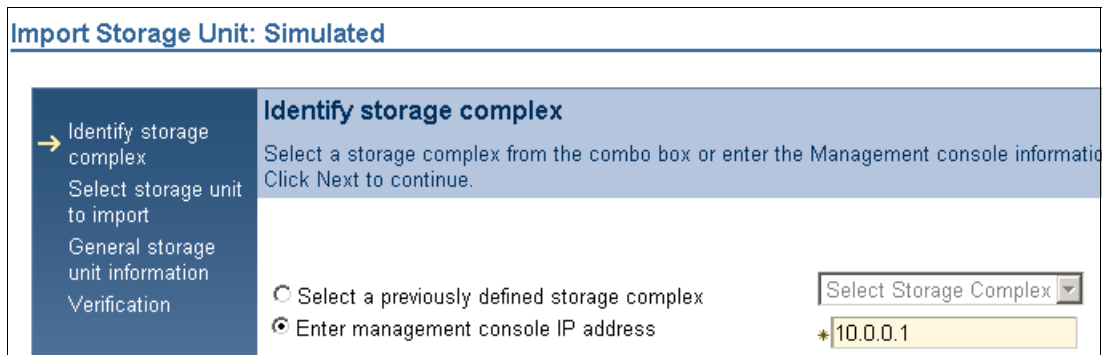

Figure 12-5 Importing the Storage Unit: Identifying the Storage Complex
1. You will be prompted for the IP address of the SMC, as shown in Figure 12-5. If you are on the same SMC that manages the real DS6000 Storage Unit, you can use the loopback IP address, 127.0.0.1.